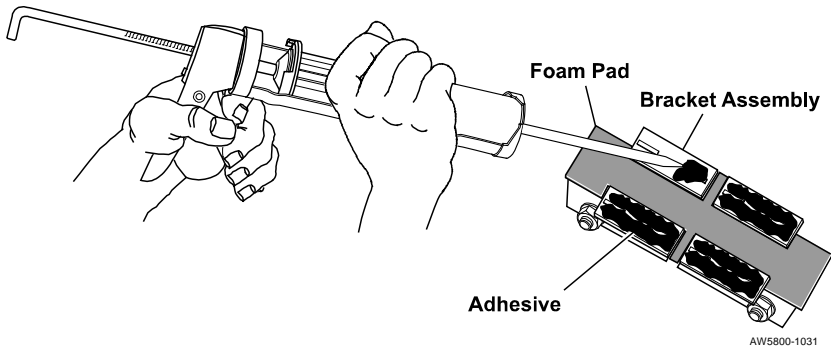

Figure 9. Applying Adhesive to the Bottom of the Bracket Assembly
1. Apply the adhesive **liberally** to the side wings on the bottom of the bracket assembly. See Figure 9.